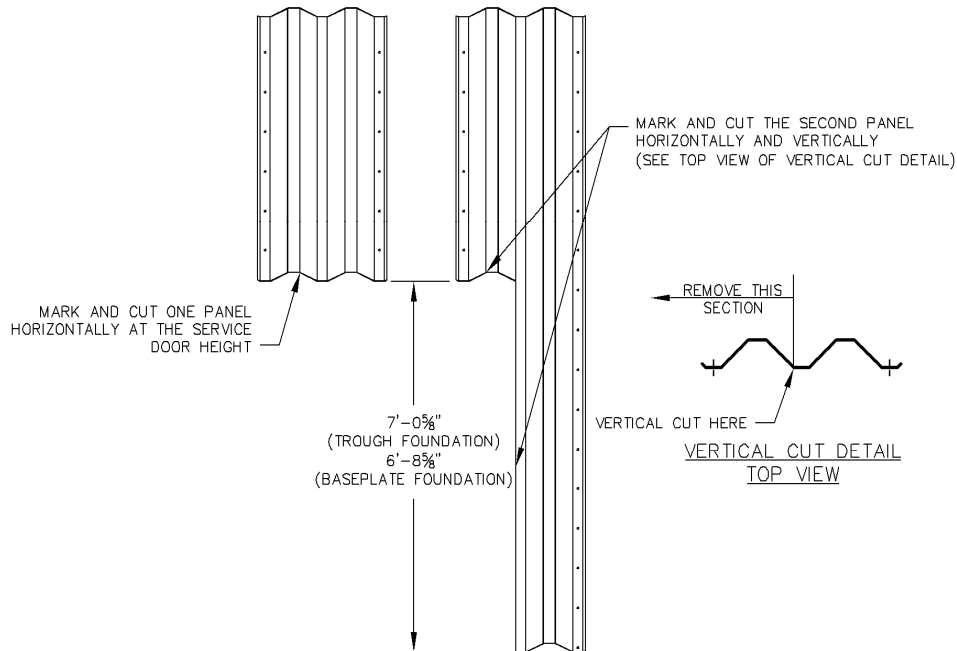

***Figure 6-1A***
Unbolt and remove two (2) adjacent endwall panels as shown in *Figure 6-1A*.